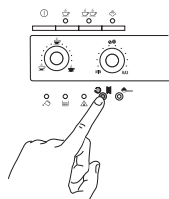

Figure 29
- Press and hold the ☕ ☕ button for at least 5 seconds (Figure 29). The button will illuminate to indicate the start of the decalcification process (the ☕ and ☕ lights remain off to indicate that it is not possible to make espresso / coffee).